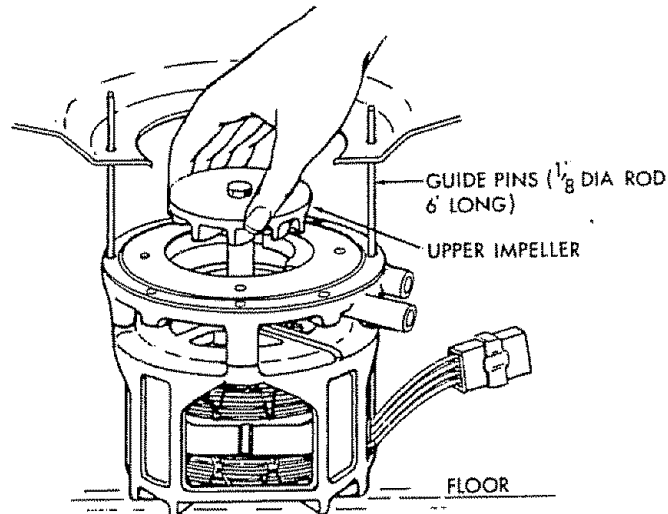

FIGURE 39
1. Place motor on floor in proper position beneath mounting hole in tub (See Figure 39) (Pump housing and gasket attached to motor)
5. Grasp impeller and lift motor straight up into position beneath tub. (See Figure 39)